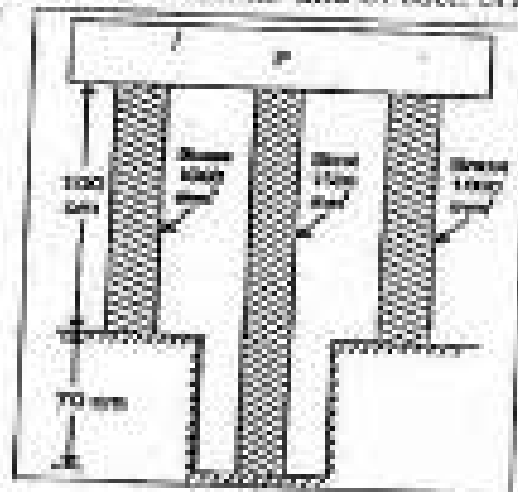

Fig. 1
c) Solve $U_{xx} + U_{yy} = 0$ in the square region as shown in fig. 1 by Liebmann's method. Take $\Delta x = \Delta y$. Perform three iterations of Gauss Seidel method.
- Q1) a) Two brass rods and one steel rod together support a load as shown in Fig.1. If the stresses in brass and steel are not to exceed 60 N/mm^2 and 120 N/mm^2 , find the safe load that can be supported. Take E for steel $= 2 \times 10^5 \text{ N/mm}^2$ and E for Brass $= 1 \times 10^5 \text{ N/mm}^2$. The cross sectional area of steel rod is 1500 mm^2 and of each brass rod is 1000 mm^2 . [12]